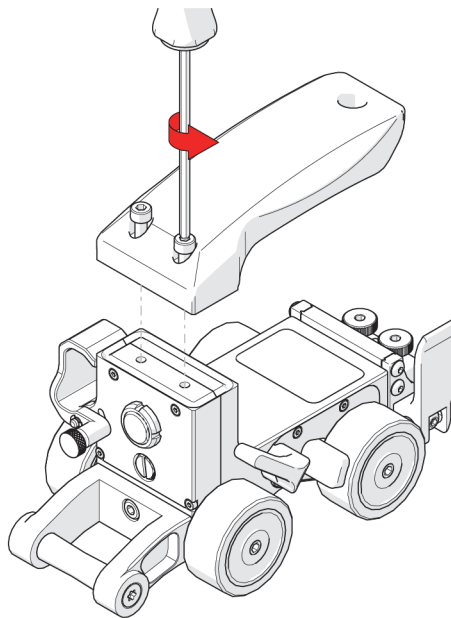

Figure 2-1 Cart handle removal
- ◆ Use the supplied 3 mm hex driver (see Figure 2-1 on page 38).